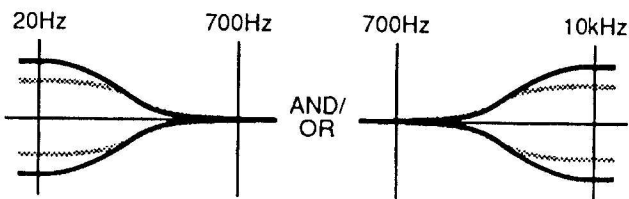

Figure 2 Typical Shelving Equalization
6. Spectral Tilt. This special tone control circuit allows uninterrupted adjustment of the entire 20 to 20kHz frequency spectrum. With a single adjustment, the user can simultaneously adjust both channels' bass and treble without singling out any given vocal or instrumental frequency band. Conventional tone controls use one-pole (6dB/octave) circuits which cause response to begin at a given frequency and reach a "shelf" at another frequency (Fig. 2). As the control is rotated toward its maximum boost or cut, both the starting frequency and shelving levels change. Within limits, this type of equalization can be useful for localized adjustments in bass and treble. However, conventional equalization is not designed to address overall, full frequency range equalization.